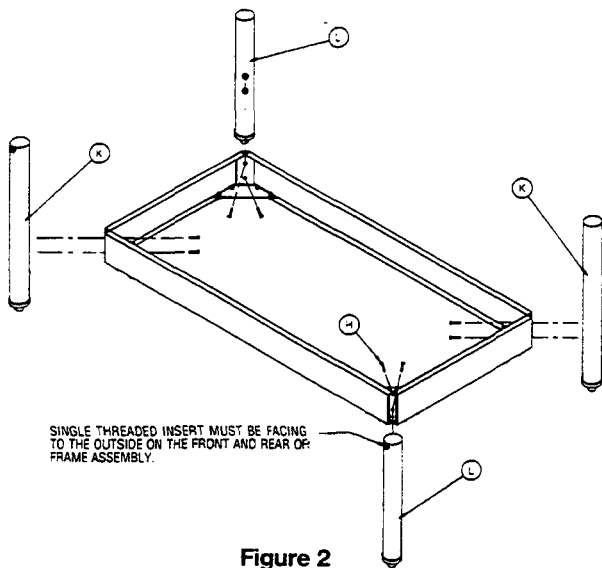

Figure 2
4. Attach left leg assembly item "K," as shown in Figure 2, and right leg assembly item "L" to frame using 1/4 - 20 x 1 1/4 hex bolts item "H" from inside of frame. Repeat Step 4 for back side of stand.